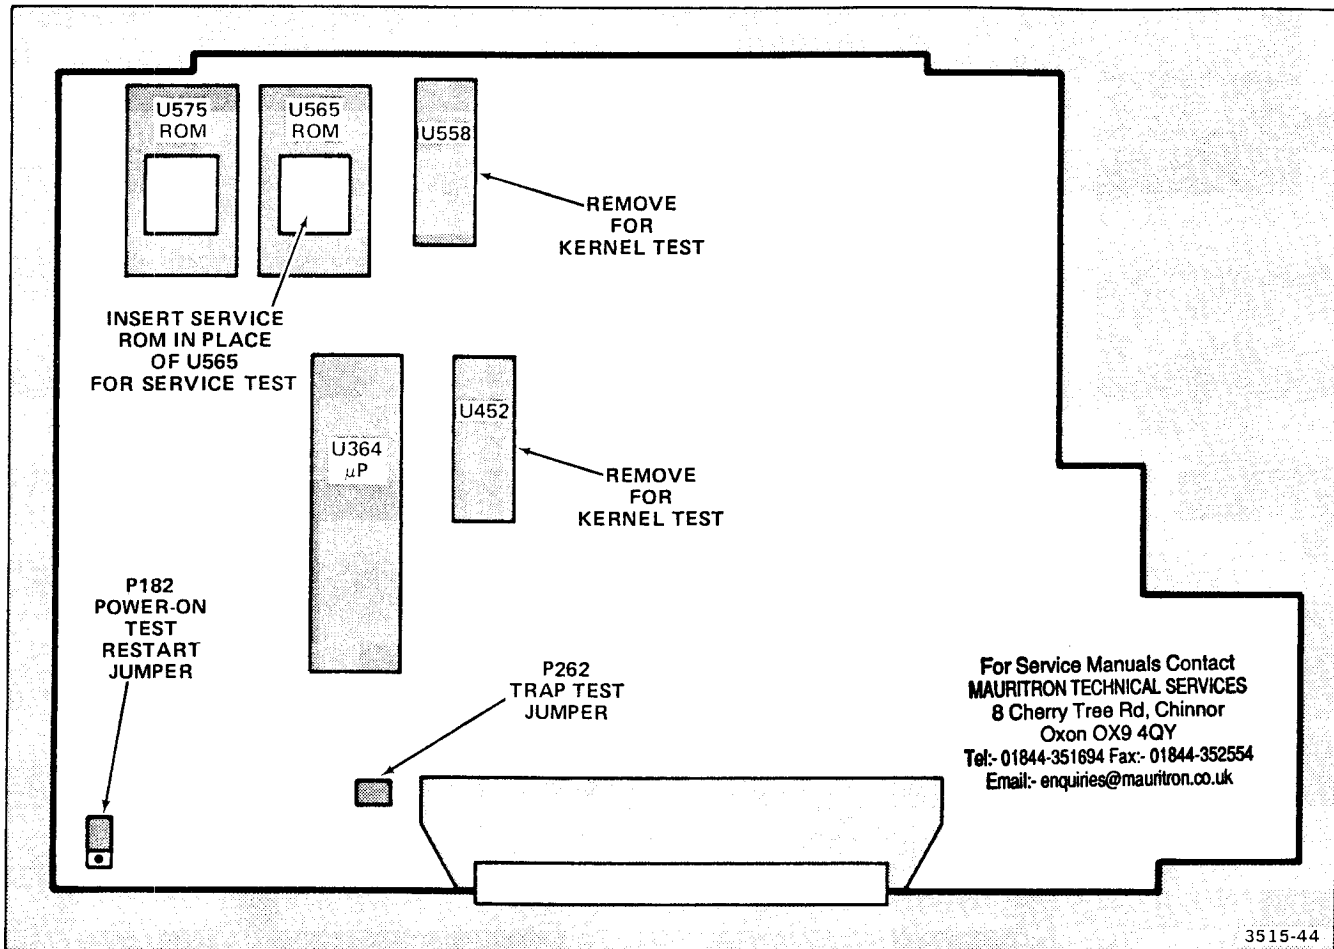

Figure 5-7. Location of the test ROM and test jumpers on the Microprocessor circuit board.
To initiate the test, momentarily unplug P262 (see Figure 5-7) and then reconnect it. Microprocessor operation will be interrupted, and the Trap Test routine will begin. To end the test, cycle the POWER switch OFF then ON. The Microprocessor will return to its normal operating routines.
2. Carefully remove U452 and U558 (see Figure 5-7) while observing the "Static Sensitive" precautions given at the beginning of the "Corrective Maintenance" portion of this section. Store the IC in a static-safe location until they are reinstalled.
3. To start the Kernal Test, reconnect the 468 to the power source and set the POWER switch to ON. To restart the test, momentarily place Power-on Restart Jumper P182 to the RESET position and then return it to the RUN position (see Figure 5-7).
2. Carefully remove U456 (see Figure 5-7) while observing the "Static Sensitive" precautions given at the beginning of the "Corrective Maintenance" portion of this section. Pull evenly on both ends of the IC so that all pins come free together. Carefully removing U456 will prevent bending the pins. Store the IC in a static-safe location until it is reinstalled.
2. Remove ROM U565 from its socket (see Figure 5-7) while observing the "Static Sensitive" precautions given at the beginning of the "Corrective Maintenance" portion of this section. Pull evenly on both ends of the IC so that all pins come free together. Carefully removing U565 will prevent bending the pins. Store the IC in a static-safe location until it is reinstalled.
Once the service routine number has been set, power may be applied to the 468. The selected routine will begin to run in place of the normal power-on self-test. If the oscilloscope is already in operation, a routine can be started by removing Restart Jumper P182 from the RUN position and placing it momentarily in the RESTART position; then returning it to the RUN position. See Figure 5-7 for the location of the Restart Jumper on the Microprocessor circuit board.